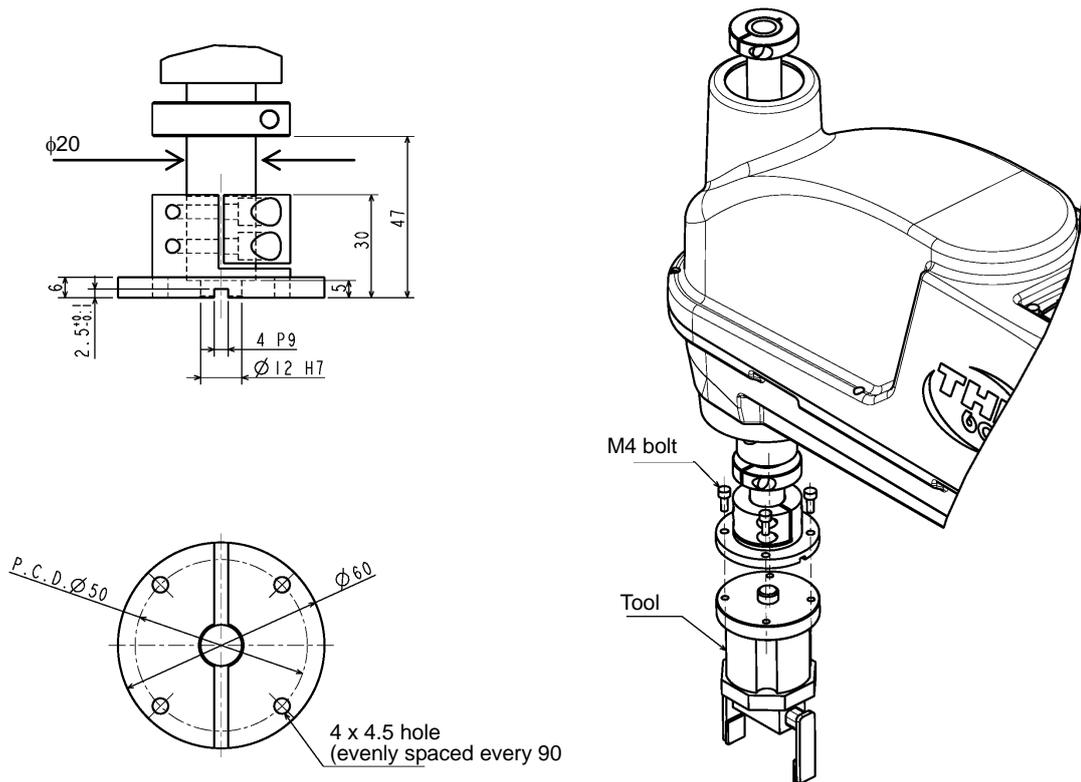

Fig. 18.1 Tool mounting dimensions (THL800, THL900 and THL1000)
The tool is mounted on the end of the tool shaft. Dimensions of the tool shaft section are shown in Fig. 18.1. As shown in Fig. 18.1, the tool is centered with the $\phi 12H7$ mating section. The tool direction is adjusted by means of the 4 x 4 keys and secured with four (4) M4 bolts.